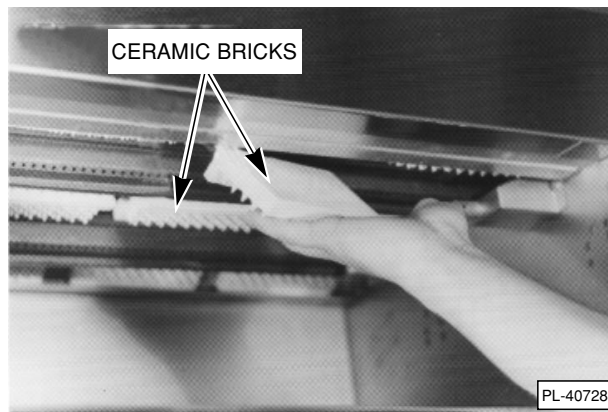

Fig. 9
Remove the grid, drip pan, and the drip pan insert in the broiler. Place ceramic bricks, with projections down, along the length of the burners. The notches on the burners will properly position the bricks (Fig. 9). The four wider bricks are placed resting evenly between the center of the two broiler burners. Mount the remaining eight side bricks, four to the right outer side and four to the left outer side of the burner, with the brick (L) section resting on the burner ledge.